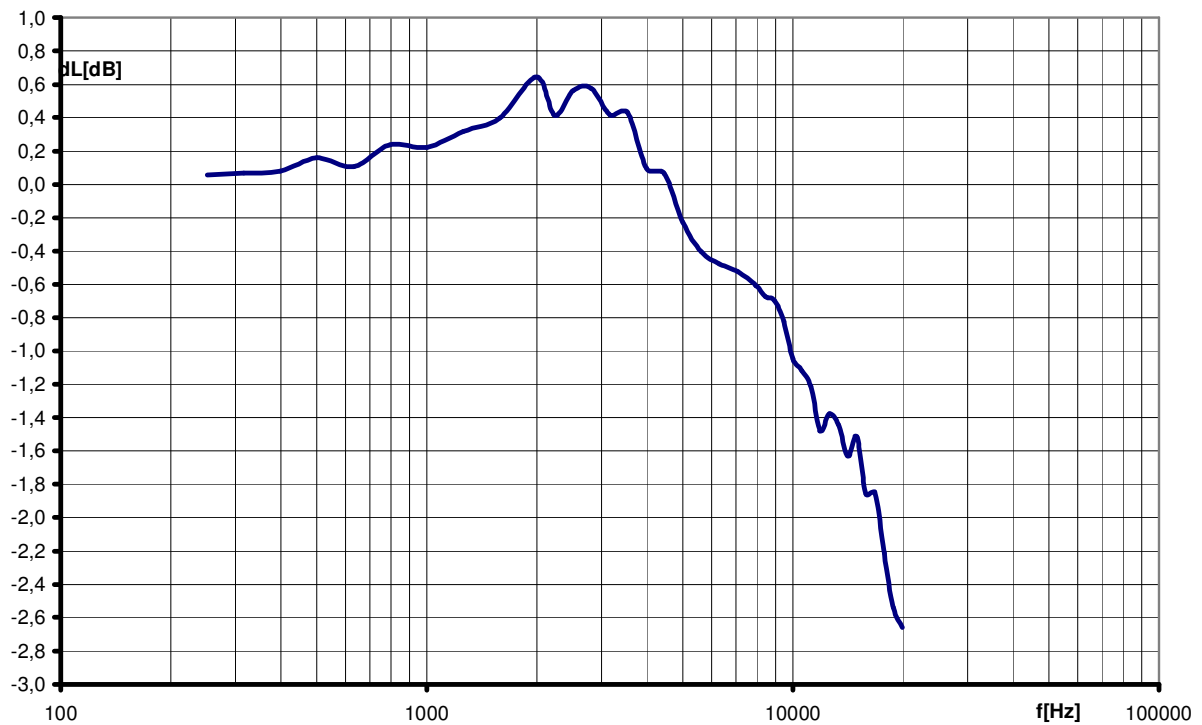

Fig. 1.9. Influence of OP60/2 windscreen.
- Influence of windscreen (at 0° incidence) See table below and Fig. 1.9.